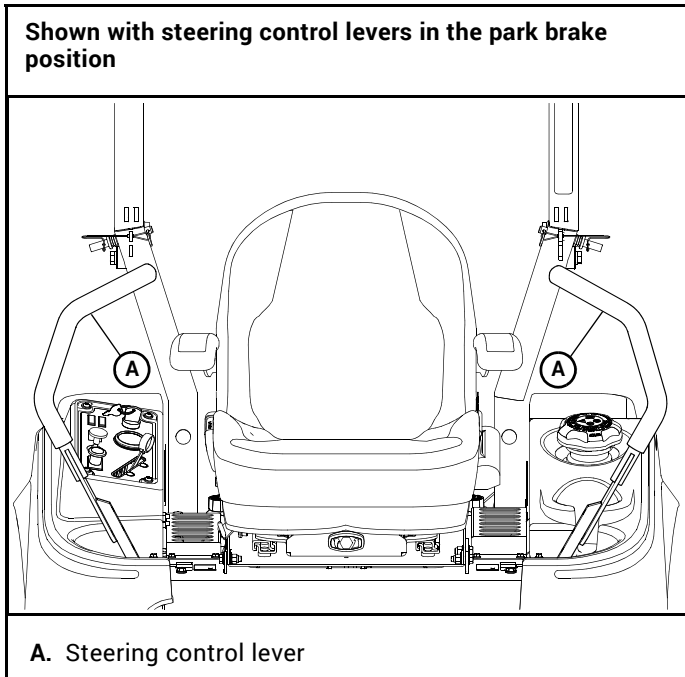
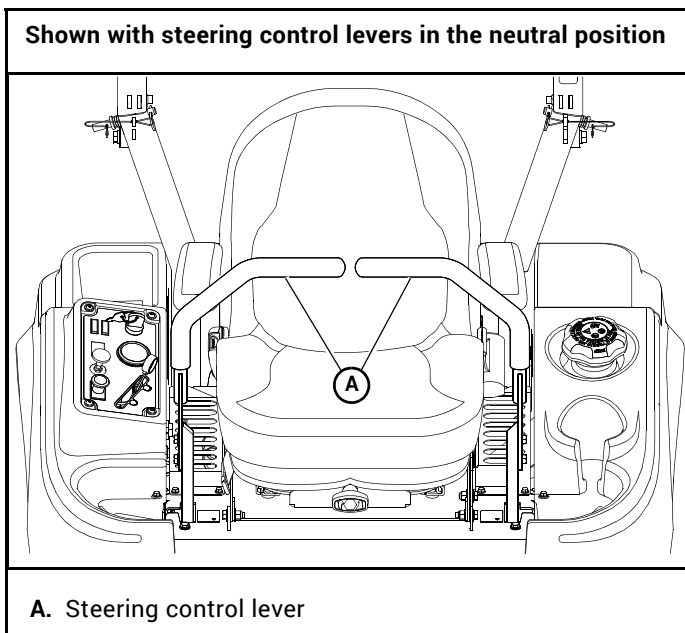

Figure 3-3
Figure 3-2
- A. **Steering control levers (Figure 3-2 & Figure 3-3)** – these levers control the mower’s speed, direction, stopping, and park brake.